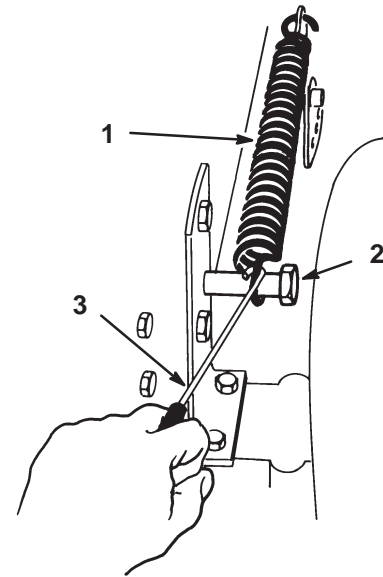

Figure 16
- Remove the height-of-cut lift assist spring from the retaining bolt (Fig. 16), using the spring tool provided with the machine. The spring is between the frame and the right rear wheel.
13. Move the height-of-cut lever into the “D” notch. Hook the lift assist spring onto the retaining bolt for storage (Fig. 16).